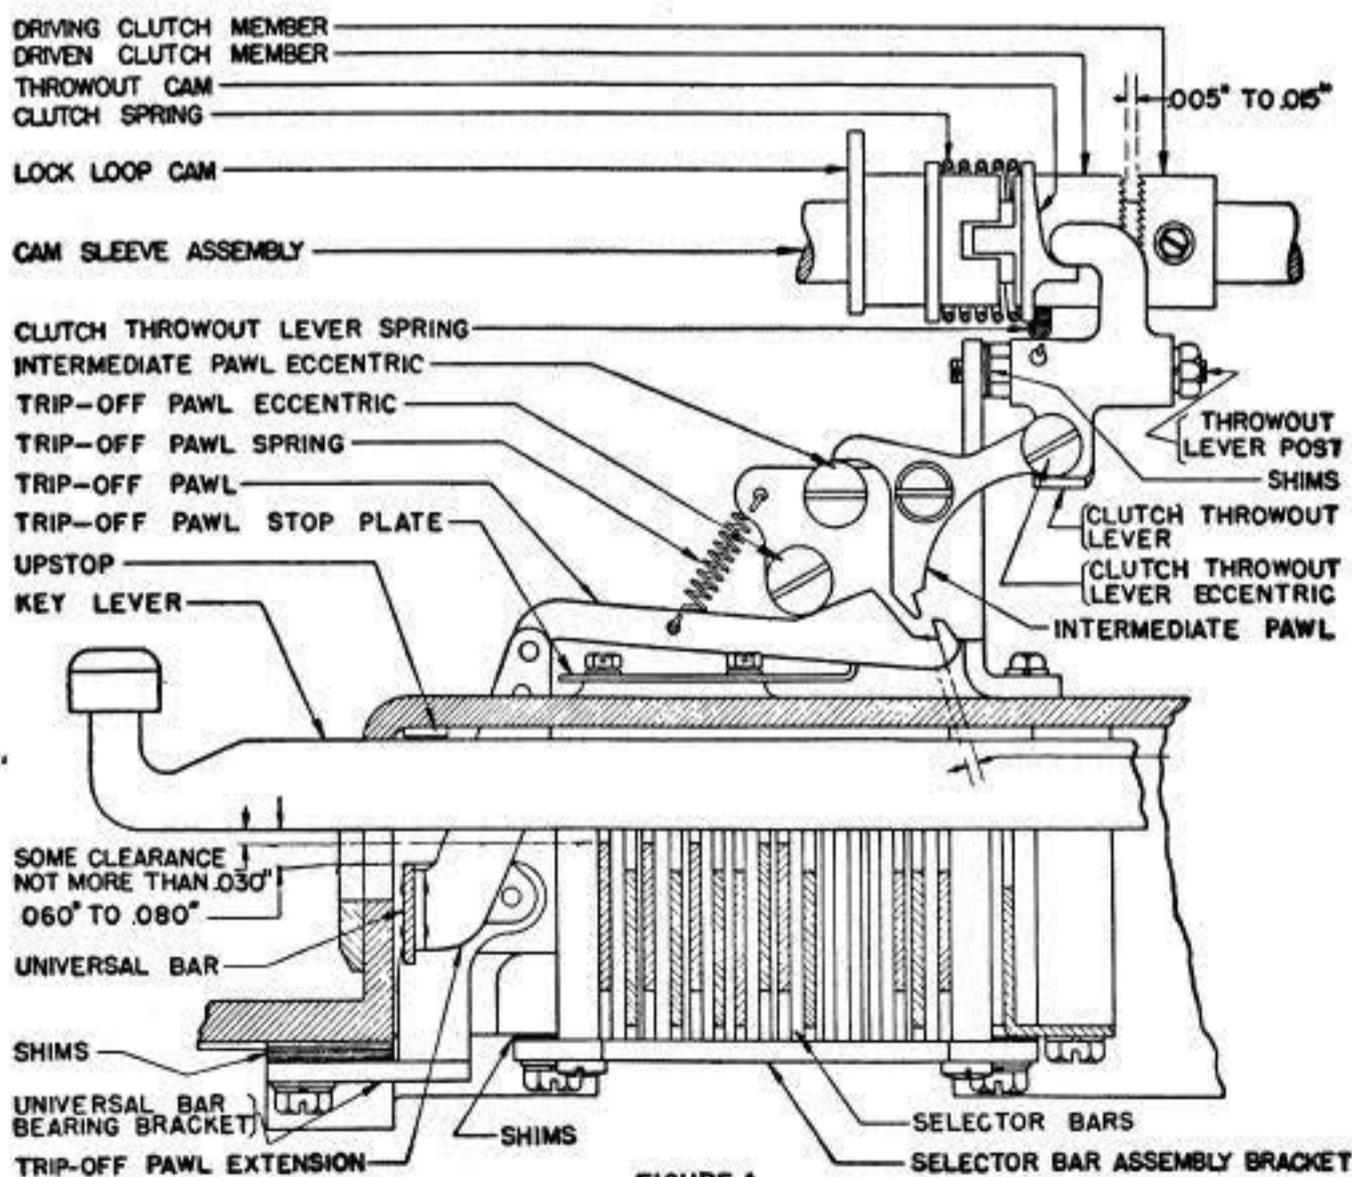

FIGURE 1
*3.05A **(Add) Selector Bar Assembly Bracket Shims Adjustment (Fig. 1):** Adjust the height of the selector bar assembly by means of shims, so that when the "Q" key lever is fully depressed, all the other key levers will have some play between the leather upstop and the selector bars, and so there is some clearance, not more than .030", between the high portion of the front selector bar (A-1) and the key levers in line with the high portions.
*3.13 (Replaces) Trip off pawl stop plate shall be positioned so that the trip off pawl clears the intermediate pawl by Min. .070", Max. .080" as in Fig. 1 when the trip off pawl is resting on its stop plate, and when the intermediate pawl eccentric is positioned with the high part of the eccentric toward the front and its screwdriver slot is horizontal.
*3.13A (Add) Universal bar shall have end play not to exceed .008" when the trip off pawl extension is approximately midway between adjacent key levers and shall clear the bottom of the key levers by Min. .060", Max. .080" as in Fig. 1 when the levers are in their normal unoperated position.